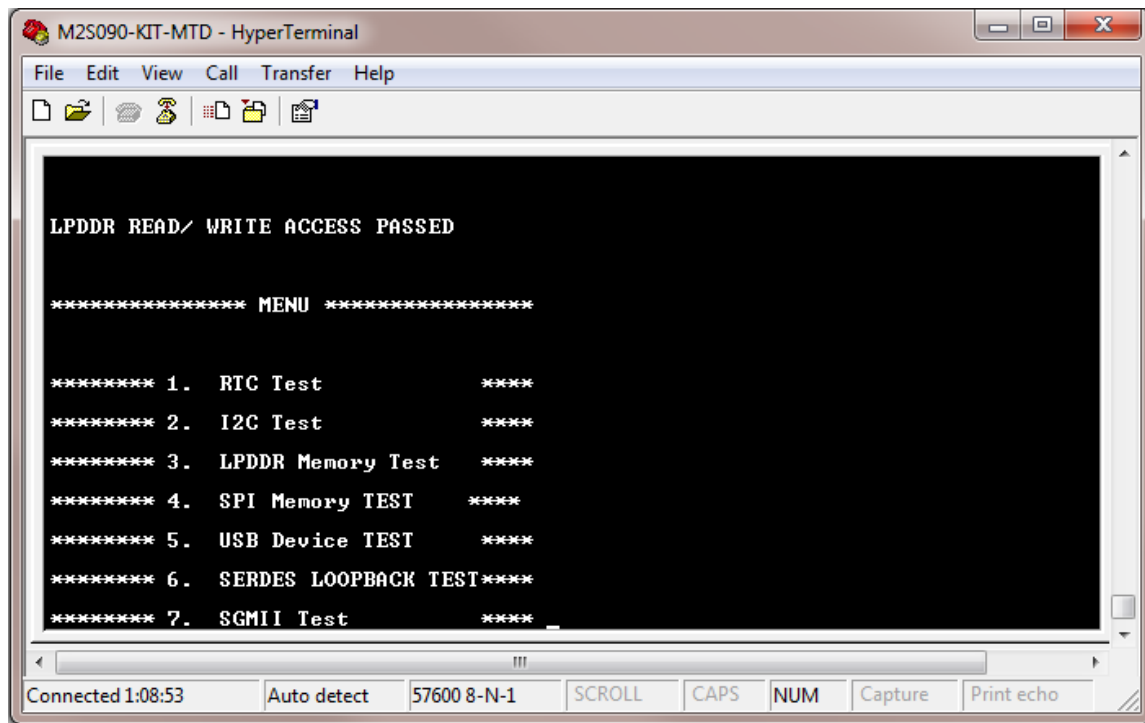

Figure 42 LPDDR Memory Test Passed
8. When the test is passed, a message is displayed. Refer to Figure 42.